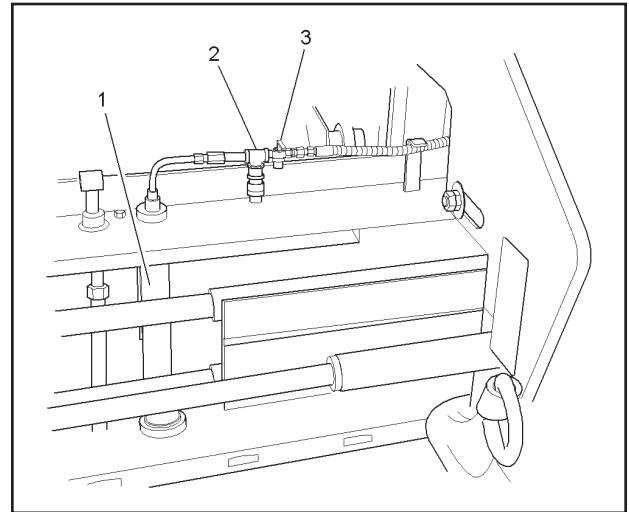

FIGURE 3-11. EXTENSION BURNER QUICK COUPLING CONNECTOR
3. Extension burners are lit manually by removing them from quick coupling connector (Figure 3-11, item 2). Turn ON valve (item 3) for extension burner and use lighter to light. Place burner back into holding socket and repeat this process for opposite side.
5. Extension burners are lit manually by removing them from quick coupling connector (Figure 3-11, item 2). Turn ON valve (item 3) for extension burner and use lighter to light. Place burner back into holding socket and repeat this process for opposite side.